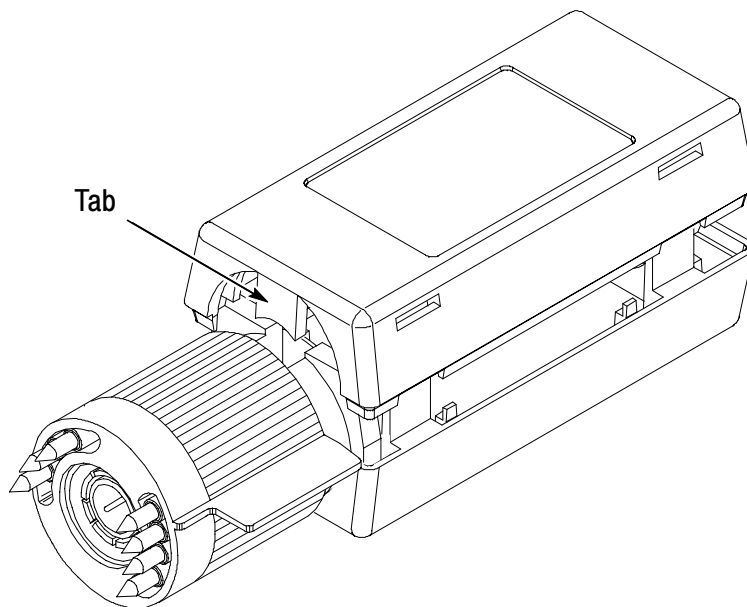

Figure 27: Replacing the compensation box cover
1. Align the TEKPROBE interface and the tab notches with the tabs on the cover. Refer to Figure 27.